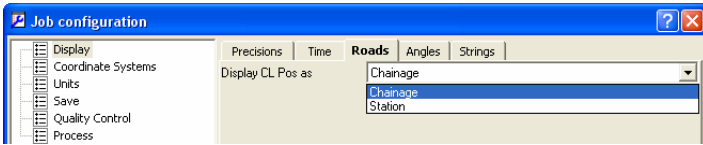

Figure 9-35. Setting the Type of the Station
- Click **Job ► Job Configuration** to select the type of the number station. The *Job configuration* dialog box displays (Figure 9-35).